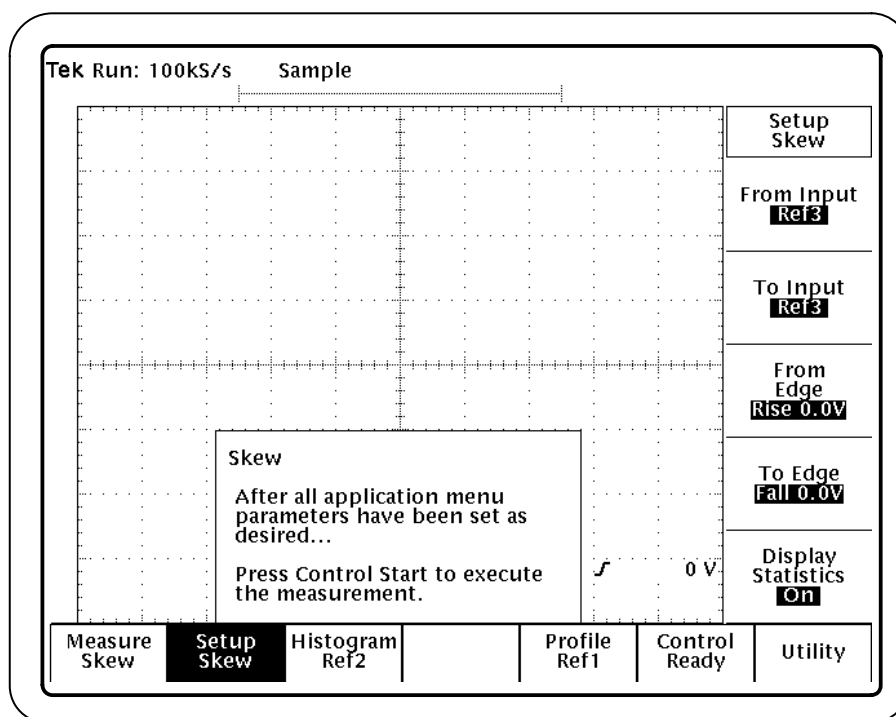

Figure 12: Setup Skew menu
3. Press To Input (side) and select Ref3. See Figure 12.